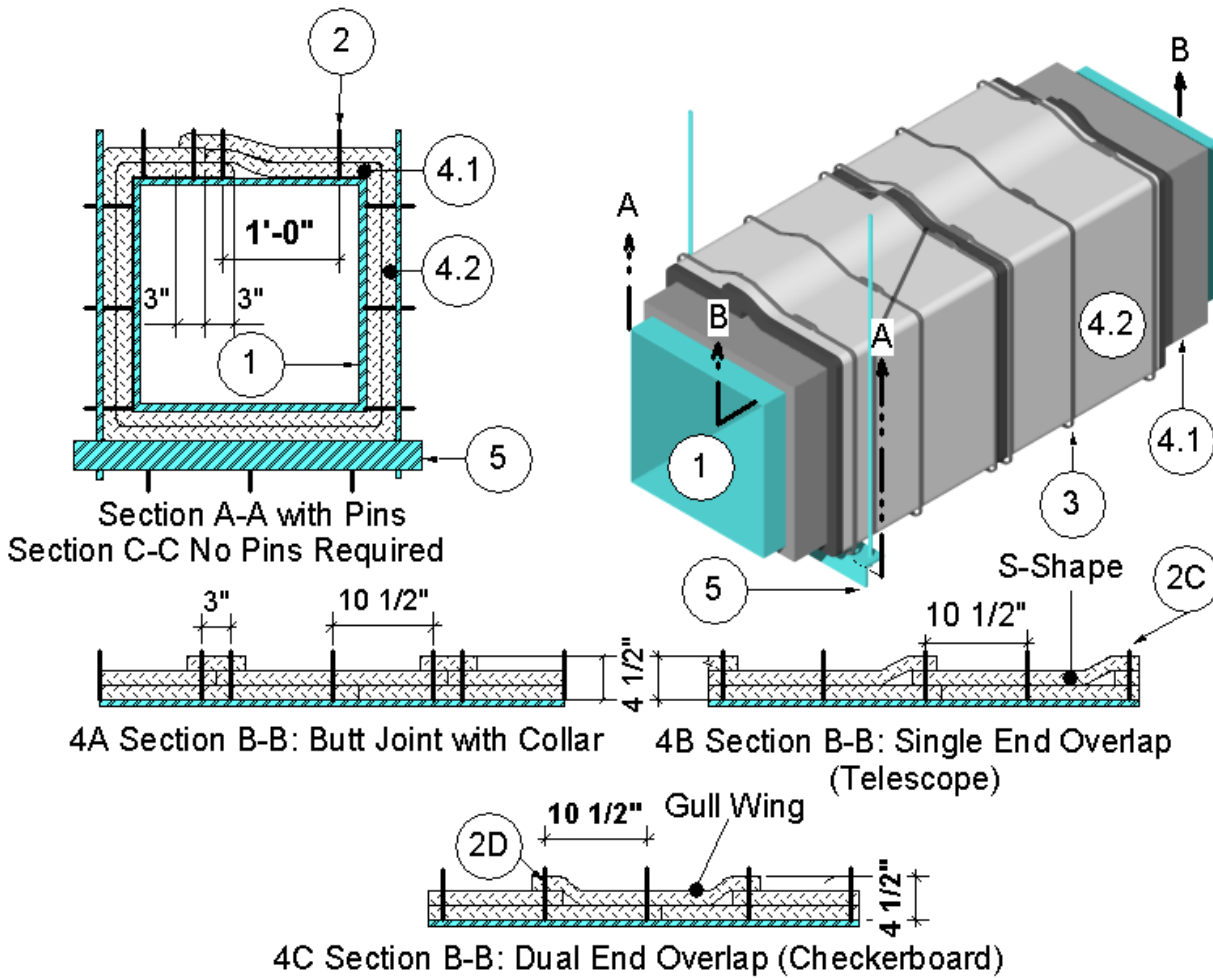

Figure 1
2. PINS: Refer to Figure 1. Use minimum 12 GA, 6-1/2 in. (165 mm) long, steel insulation pins or minimum 12 GA, steel cup head insulation pins. The length of the cup head pins may be increased if needed where the thickness of insulation is greater due to overlapping installation techniques. Weld pins to the grease duct (Item 1), if using cup head insulation pins, do so after application of duct insulation (Item 4). Match the following fastener method with corresponding duct insulation (Item 4) installation method.
- A. Butt Joint with Collar: Refer to Figure 1, 4A Section B-B. Locate pins at all blanket overlaps, on all sides of the grease duct (Item 1), and meet the following requirements.
- i. Space pins maximum 12 in. (305 mm) apart in rows around the perimeter of grease duct (Item 1). Locate pins maximum 6-3/4 in (171 mm) from the edges of the grease duct (Item 1). Refer to Figure 1, Section A-A.
- ii. Space two rows of pins 3 in. (76 mm) apart centered directly over each transverse joint and collar, and space rows a maximum of 10-1/2 in. (267 mm) apart elsewhere along the length of the grease duct (Item 1), Refer to Figure 1, 4A Section B-B.
- B. Single End Overlap (Telescope): Refer to Figure 1, 4B Section B-B. Locate pins at all blanket overlaps, on all sides of the grease duct (Item 1), and meet the following requirements.
- i. Space pins maximum 12 in. (305 mm) apart in rows around the perimeter of grease duct (Item 1). Locate pins maximum 6-3/4 in. (171 mm) from the edges of the grease duct (Item 1). Refer to Figure 1, Section A-A.
- ii. Space the rows of pins maximum 10-1/2 in. (267 mm) apart along the length of the grease duct (Item 1). Refer to Figure 1, 4B Section B-B.
- C. Dual End Overlap (Checkerboard): Refer to Figure 1, 4C Section B-B. Locate pins at all blanket overlaps, on all sides of the grease duct (Item 1), and meet the following requirements.
- ii. Space the rows of pins maximum 10-1/2 in. (267 mm) apart along the length grease duct (Item 1). Refer to Figure 1, 4C Section B-B.
- A. **Banding and Pin Method:** When using banding and pin (Item 2) combination, position and weld pins to the grease duct (Item 1) on bottom of grease duct for horizontal sections and on one of the wide sides for vertical sections. Space pins a maximum of 12 in. (305 mm) on center transversely and also centered at the overlaps of the duct insulation (Item 4) as indicated by the installation method chosen. Space pins maximum 10-1/2 in. (267 mm) apart to create rows of pins along the length of the grease duct. Locate pins maximum 12 in. (305 mm) from the edges of the grease duct. No other pins are required. Overlap all duct insulation joints a minimum of 3 in. (76 mm) Secure the duct insulation to the pins with 2-1/2 in. (64 mm) square or round galvanized steel speed clips. Turn down or cut off pins that extend beyond the duct insulation. After duct insulation is installed, apply banding. Locate bands 1-1/2 in. (38 mm) from each edge of the outer layer duct insulation (Item 4), centered on the overlap. For the butt joint with collar insulation method (refer to Item 4A and Figure 1, 4A Section B-B) ensure that a band is placed over the collar on each side of the joint such that the bands replace the two sets of pins (Item 2) required when using the pin (Item 2) method.
- B. **Banding Only Method:** Use banding only method as an alternative duct insulation (Item 2) fastening method, only when the grease duct (Item 1) width and height are both less than or equal to 24 in. (610 mm). After second layer of duct insulation (Item 4) is installed, apply banding. Locate bands 1-1/2 in. (38 mm) from each edge of the duct insulation (Item 4), centered on the overlap. For the butt joint with collar insulation method (refer to Item 4A and Figure 1, 4A Section B-B) ensure that a band is placed over the collar on each side of the joint such that the bands replace the two sets of pins (Item 2) required when using the pin (Item 2) method. For the compressed butt joint insulation method (Item 4D), ensure that banding is located nominal 2-1/2 in. (64 mm) on center from each side of the compressed joint. For insulation methods with overlapping joints (Items 4A to 4C) place additional banding in the field area between the overlaps spaced a maximum of 10-1/2 in. (267 mm) on center. For the
compressed butt joint insulation method (Item 4D) place additional banding in the field area between the compressed joints spaced a maximum of 9 in. (229 mm) on center. Refer to Figure 1, Section C-C. No pins (Item 2) are required when this banding option is used.
DUCT INSULATION: Apply two layers of the nominal 1-1/2 in. (38 mm) thick, 6 pcf density (96 kg/m³) duct insulation over the entire surface of the grease duct (Item 1). Apply the first layer of duct insulation with longitudinal joints overlapping a minimum of 3 in. (76 mm) and transverse joints butted with the following exception: when Banding and Pin Method (Item 3A) is used for grease ducts having a cross-sectional dimension greater than 24 in. (610 mm) install transverse joints with a minimum overlap of 3 in. (76 mm). Offset the second outer layer (Figure 1, 4.2) one half the width of the inner first layer (Figure 1, 4.1) so that the joints of the inner first layer (Figure 1, 4.1) are covered by and approximately in the center of the second outer layer (Figure 1, 4.2). Apply the second layer (Figure 1, 4.2) using one of the methods (A, B or C) described below. Use blanket, available in various widths, that is fully encapsulated with a polypropylene-foil scrim. Wrap one layer of insulation around the grease duct (Item 1) perimeter so that each terminating end of duct insulation overlaps onto the starting end of duct insulation a minimum of 3 in. (76 mm) at all longitudinal joints. Stagger the longitudinal overlap location so that no two consecutive adjacent overlaps align. Refer to Figure 1, 4A Section A-A for transverse overlap section view. Cover all visually-exposed ends and edges of duct insulation with nominal 4 in.
- A. **Butt Joint with Collar:** Refer to Figure 1, 4A Section B-B. Wrap the grease duct (Item 1) with two layers of duct insulation installed with butt joints at all circumferential joints. Apply the first layer, center pieces of duct insulation over 3 in. (76 mm) wide pin bay. Butt each end of each piece of duct insulation together with preceding edge of duct insulation. Each piece of installed duct insulation width is its nominal width. (Example: each piece of nominal 24 in. (610 mm) wide duct insulation when installed is 24 in. (610 mm) wide.) Offset the second layer of duct insulation so that the butt joint of the first layer of duct insulation is centered under the second layer of duct insulation and install in same manner as first layer of duct insulation. Place and center 6 in. (152 mm) wide collar of duct insulation over the butt joint. Overlap 6 in. (152 mm) wide collar onto each adjacent duct insulation 3 in. (76 mm). Verify all duct insulation butt joints with collars are three layers of duct insulation in overall thickness.
- B. **Single End Overlap (Telescope):** Refer to Figure 1, 4B Section B-B. Wrap the grease duct (Item 1) with two layers of duct insulation. Install first layer of duct insulation with transverse joints butted and longitudinal joints overlapping a minimum of 3 in. (76 mm). Install second layer using the following installation technique:
- i. Starting at one end of the grease duct (Item 1), apply the first piece of duct insulation around the grease duct (Item 1) overlapping on itself by minimum 3 in. (76 mm) which must be located at the pins (Item 2). Refer Figure 1, Section A-A.
- ii. Position and overlap the leading edge of the second piece of duct insulation nominally 3 in. (76 mm) over the flush edge of the first piece of duct insulation. Place the opposite edge of the second piece of duct insulation flush against the surface of the first layer of duct insulation. An “S-shaped” cross section of the duct insulation is created. Refer to Figure 1, 4B Section B-B.
- C. Dual End Overlap (Checkerboard): Refer to Figure 1, 4C Section B-B. Apply the first layer of duct insulation with transverse joints butted and longitudinal joints overlapping a minimum of 3 in. (76 mm). Install second layer using the following installation technique: After installation, verify all duct insulation overlaps are three layers of duct insulation in overall thickness.